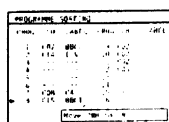

Fig. 14.
- 3 Select Programme Sorting with Δ or ∇ and press OK. The PROGRAMME SORTING menu appears. (See Fig. 14.)